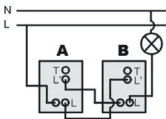

Fig. 8 ZV810 ZV810
(See Fig. 8)
3. When two sensor switches are used in a two way circuit (See Fig. 8) the operation will be as follows:-